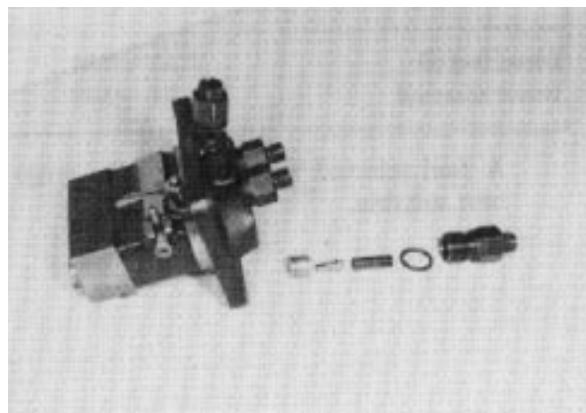

Figure 20
Injection Timing Test (Fig. 20, 21)
A. Remove the delivery valve holder (Fig. 20). Remove the delivery valve assembly and spring.